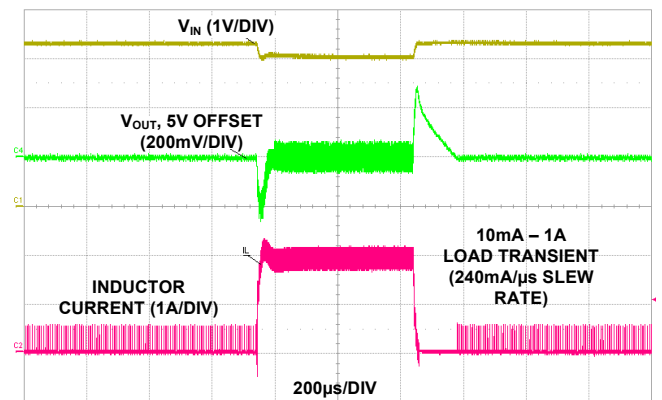

FIGURE 3. ISL91117 LOAD TRANSIENT AT $V_{IN} = 3V$ AND $V_{OUT} = 5V$
12. Set the electronic load to constant current dynamic mode with 10mA to 1A pulse, $t_{ON} = 500\mu s$. Check the load transient response as shown in Figure 3.